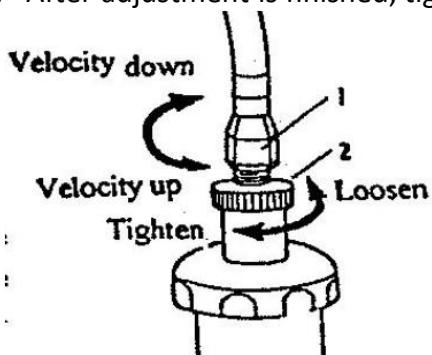

Fig. 10
- d. After adjustment is finished, tighten the lock nut. See Fig.10.